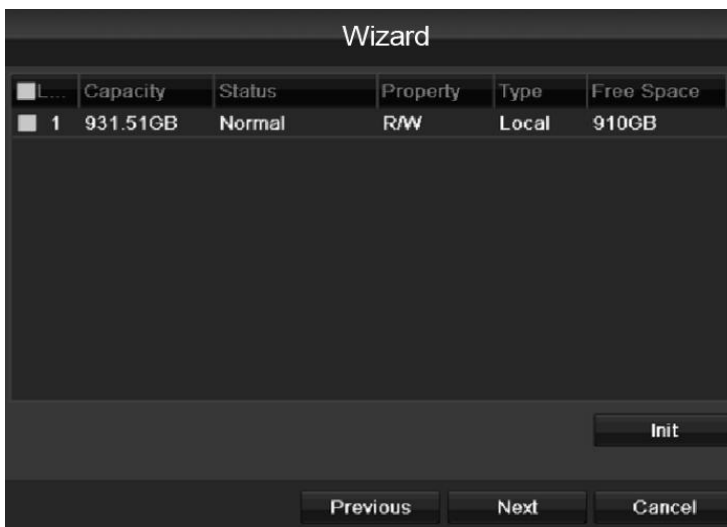

Figure 2.6 HDD Management
6. Click **Next** button to enter the **HDD Management** window, shown in Figure 2.6.